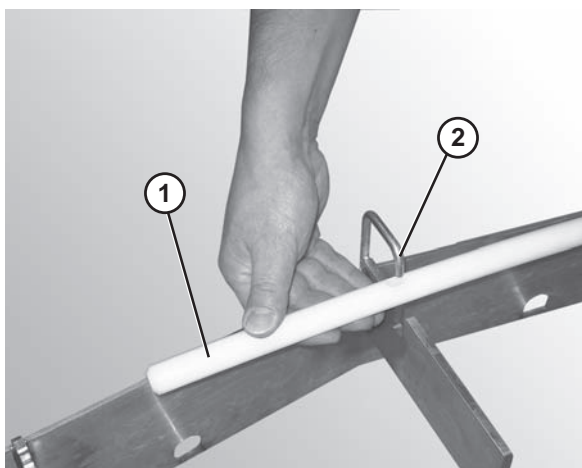

Figure 31
2. Attach the hold down wear strip (**Figure 31, item 1**) to the frame hooks (**Figure 31, item 2**) on the outside of the frame.